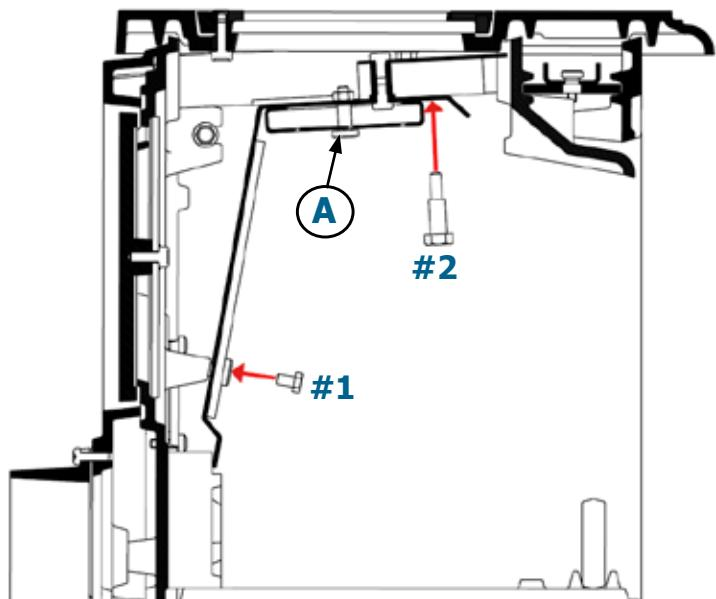

Figure 5 - Replacing the parts
- Refit the flue baffle (see figure 5 and 6).
(*figure 5 et 6*)